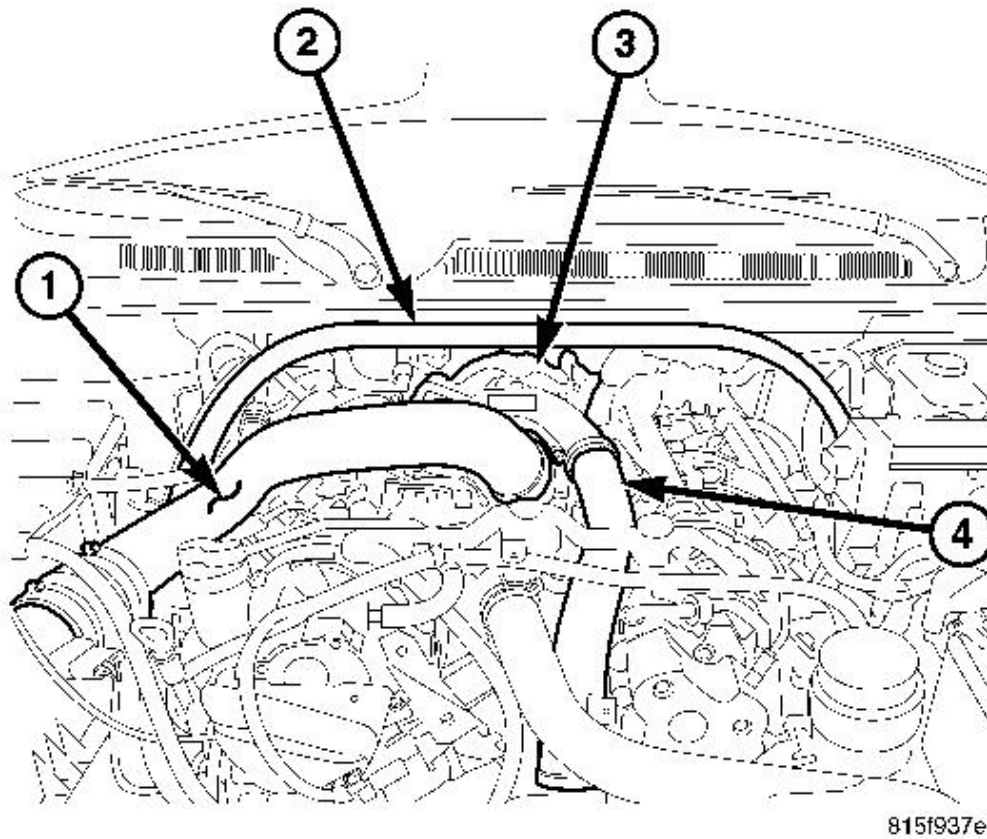

Fig. 187: Strut Tower Support, Air Cleaner Outlet Tube, Turbocharger & Charge Air Inlet Tube
18. Install the strut tower support (2). See **Fig. 187**.